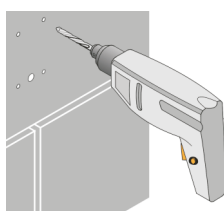

Fig. 3
- 2 - Drill the fixing holes.( Fig. 3) (Hole diam: 5mm) ;